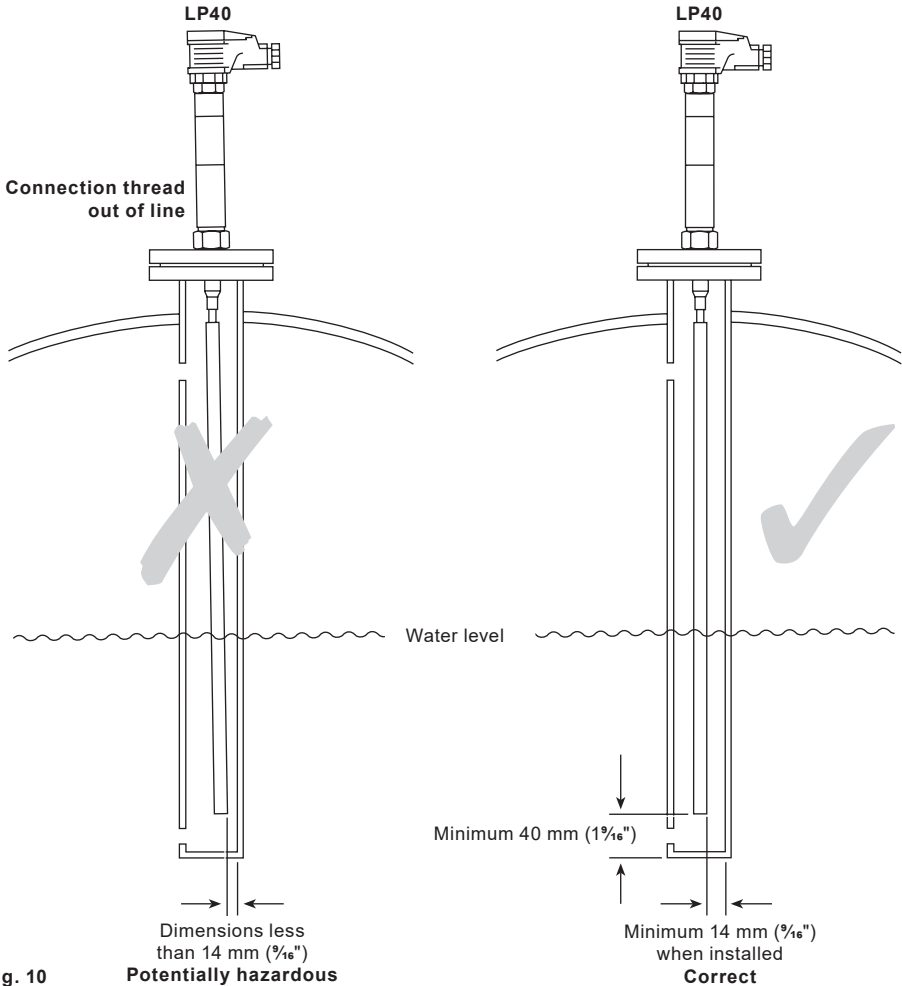

Fig. 10
When correctly carried out, the test will ensure that the final probe tip position is at least 14 mm ($\frac{9}{16}$ ") from the protection tube. See Figure 10.
- Protection tube not of large enough bore and/or not deep enough (the tube should be at least 40 mm ($1\frac{1}{2}$ ") deeper internally than the end of the probe, see Figure 10).